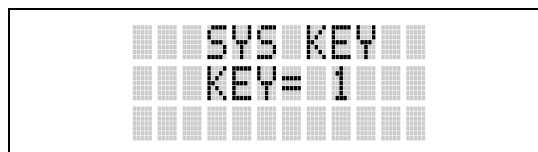
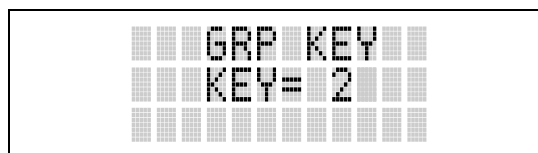

Figure 10-8: System Encryption Key Display
Figure 10-9: Group/Channel Encryption Key Display
3. Use the  or  button to toggle between displaying the system key (Figure 10-8) or the group/channel key (Figure 10-9).